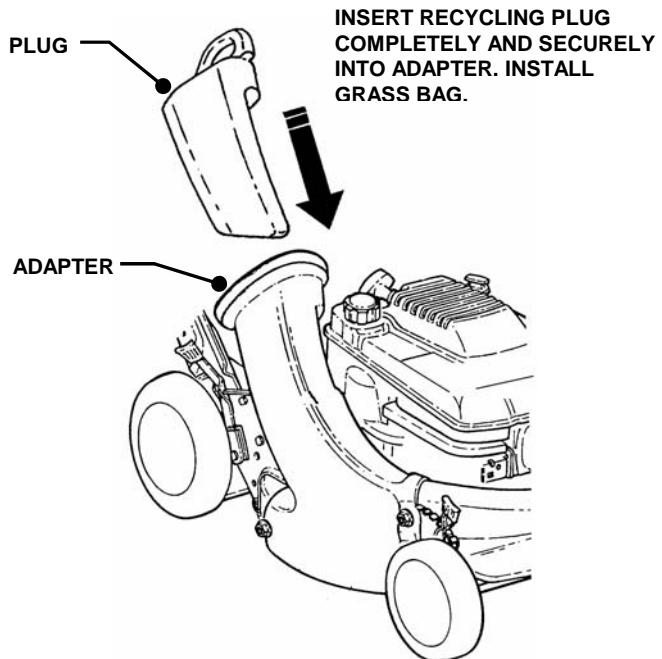

FIGURE 2.8
**STEP 1:** Once adapter has been installed, recycling may be desired. Insert recycling plug completely and securely into adapter. Install grass bag. See Figure 2.8.